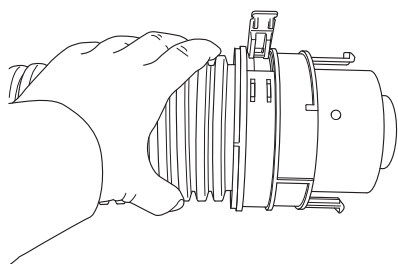

Fig. 25
6. Repeat the process for the 100mm air duct (Fig. 25)